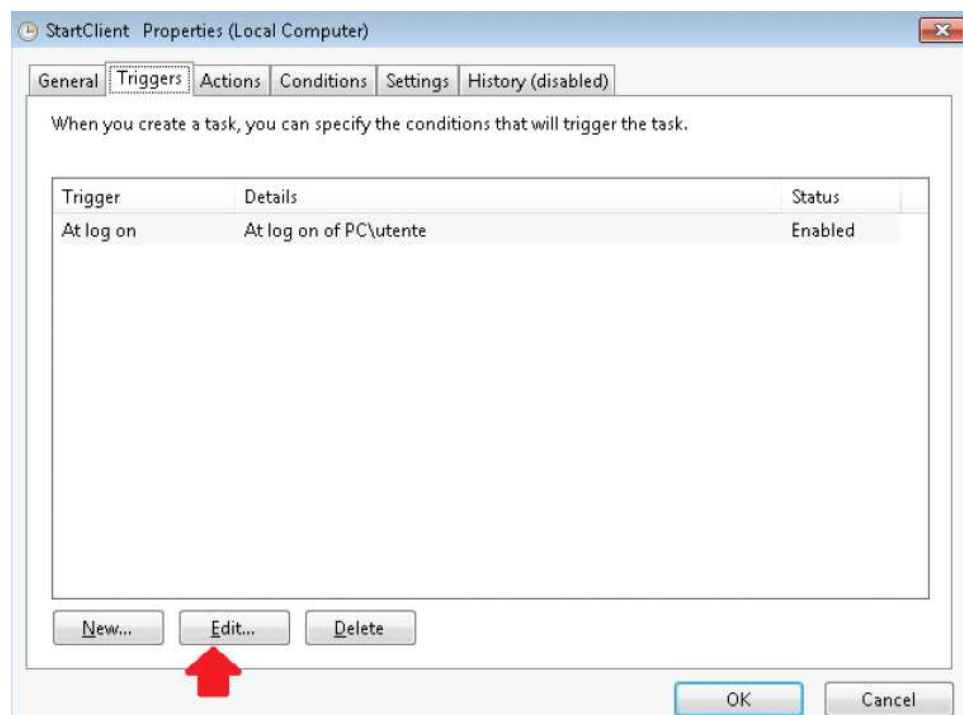

Fig. C.42: Triggers tab
STEP 11 – Please select *Triggers* tab and click on *Edit* button to modify trigger settings (Fig. C.42).